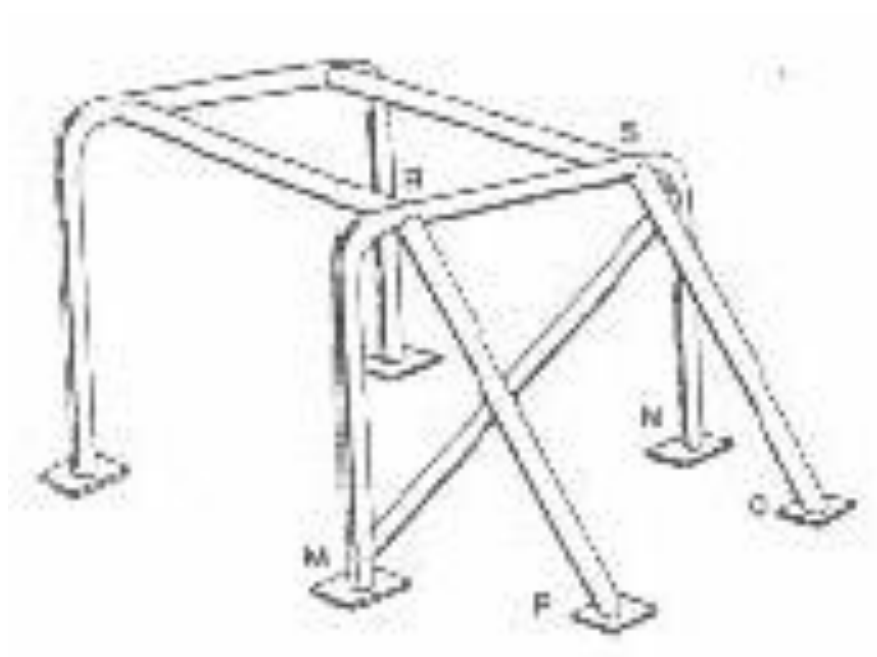

Figure G2: Acceptable Roll Cage construction
- Acceptable bracing systems for 2 seat vehicles are displayed in **Figure G2**. Vehicles with more passenger seats in the rear of the vehicle are required another rollbar.